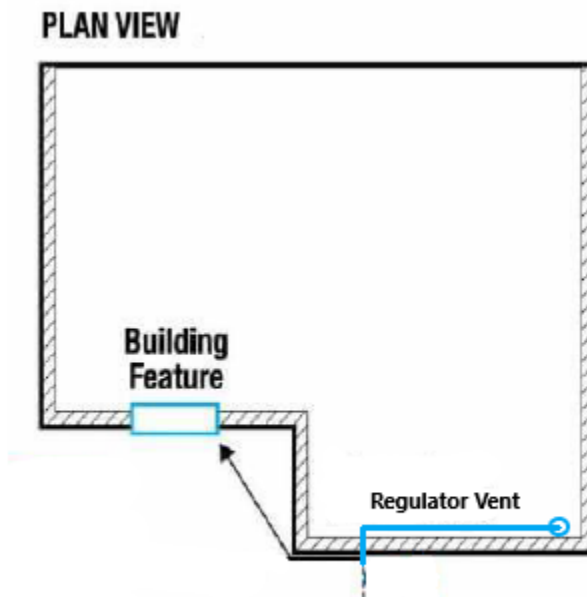

Figure 21. String line measuring
The minimum clearance must be maintained regardless if the feature is located around an outside corner. In these cases, measure as if using a string pulled tight from the outlet to the feature (Figure 21).
- Figure 21. “String line measuring” by Camosun College is licensed under a CC BY-NC-SA licence (<https://creativecommons.org/licenses/by-nc-sa/4.0/deed.en>).